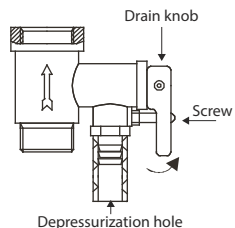

Fig. 16
- for RS1/RS2/RS7 series water heaters: unscrew retaining nut of the thermal switch, fastened on the flange of the heating element, turn over the thermal switch and press the button, located in the center of the thermal switch, until it clicks, Fig. 16;